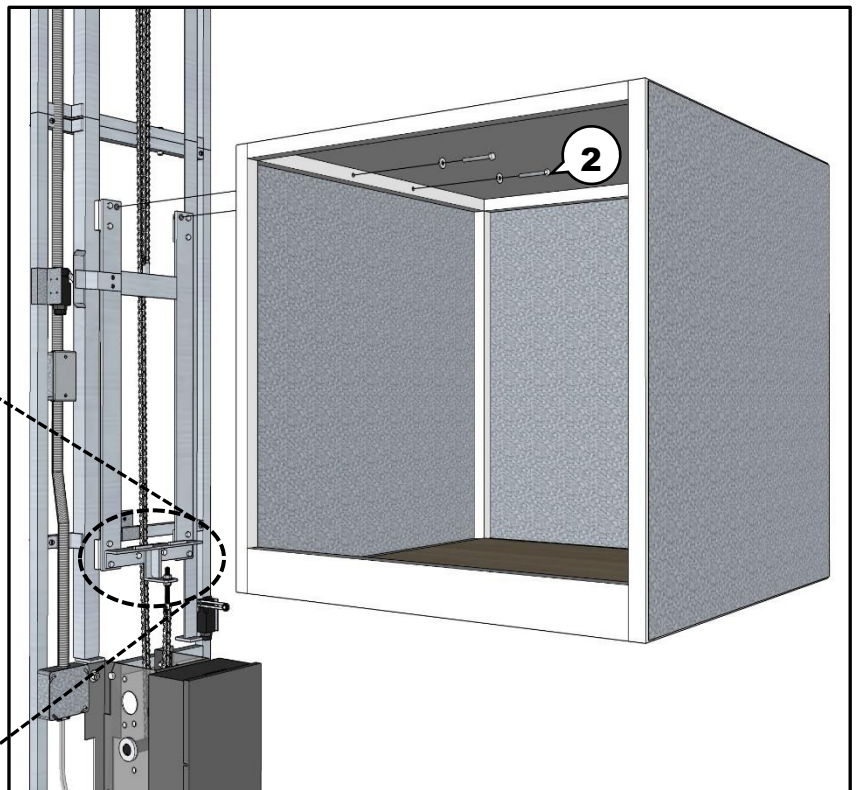

Figure 21
- 2 Use provided bolts ($\frac{1}{4}$ "-20 x $1\frac{3}{4}$ ") & washers to secure dumbwaiter car to trolley. (see Figure 21)